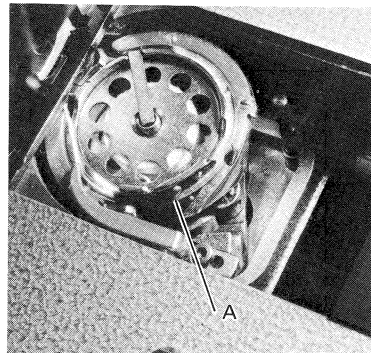

Fig. 17
2. The tension on the bobbin thread is regulated by the screw of the tension spring on the outside of the bobbin case (Fig. 17 A).